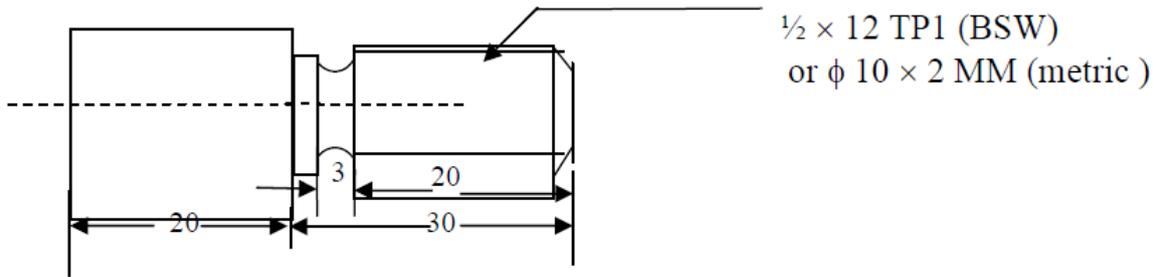

Fig.2: Job for practice on a lathe
- ii) MACHINING (in 3 days or 9 hours); To make a pin as shown in Fig.2 from a  $\square$ 20mm mild steel rod in a lathe.